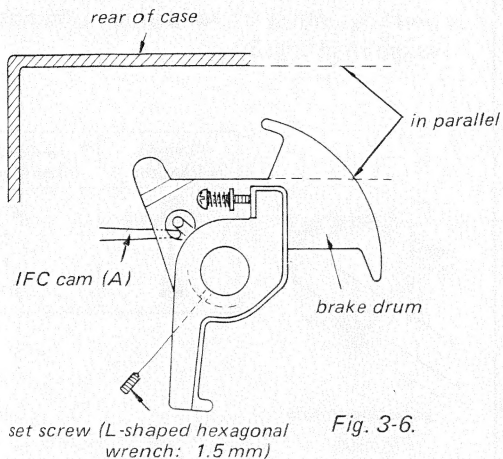

Fig. 3-6.
2. Adjust the position of the brake drum by loosening the set screw as shown in Fig. 3-6.